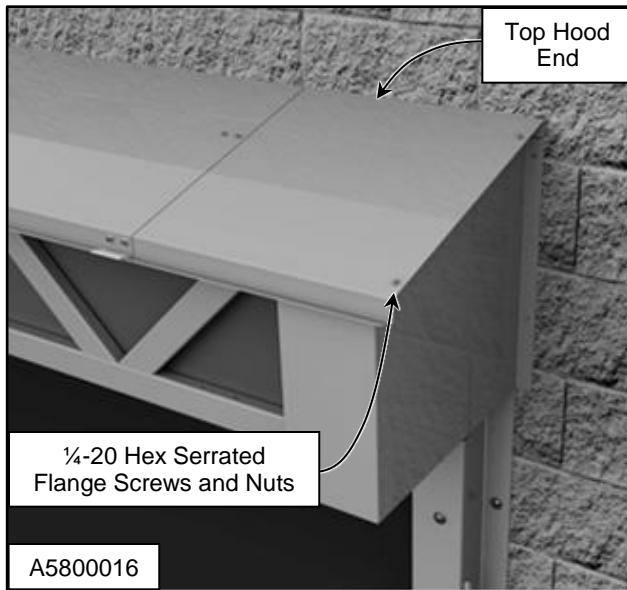
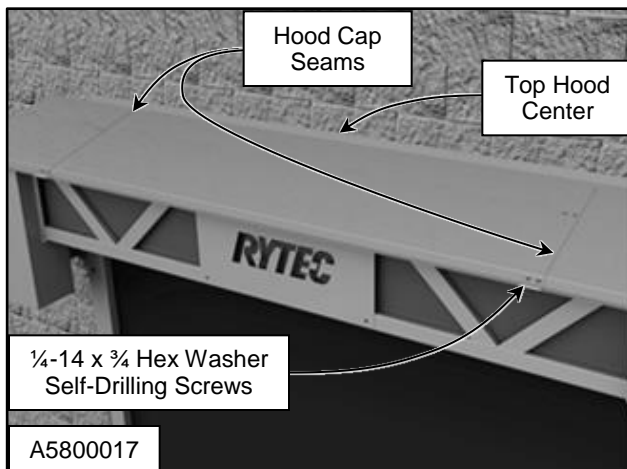

Figure 41
Figure 42
6. Attach left and right top hood ends onto the head assembly. Use $\frac{1}{4}$ -20 x $\frac{1}{2}$ -in. hex serrated flange machine screws and $\frac{1}{4}$ -20-in. hex serrated flange lock nuts. (See Figure 41 and Figure 42)